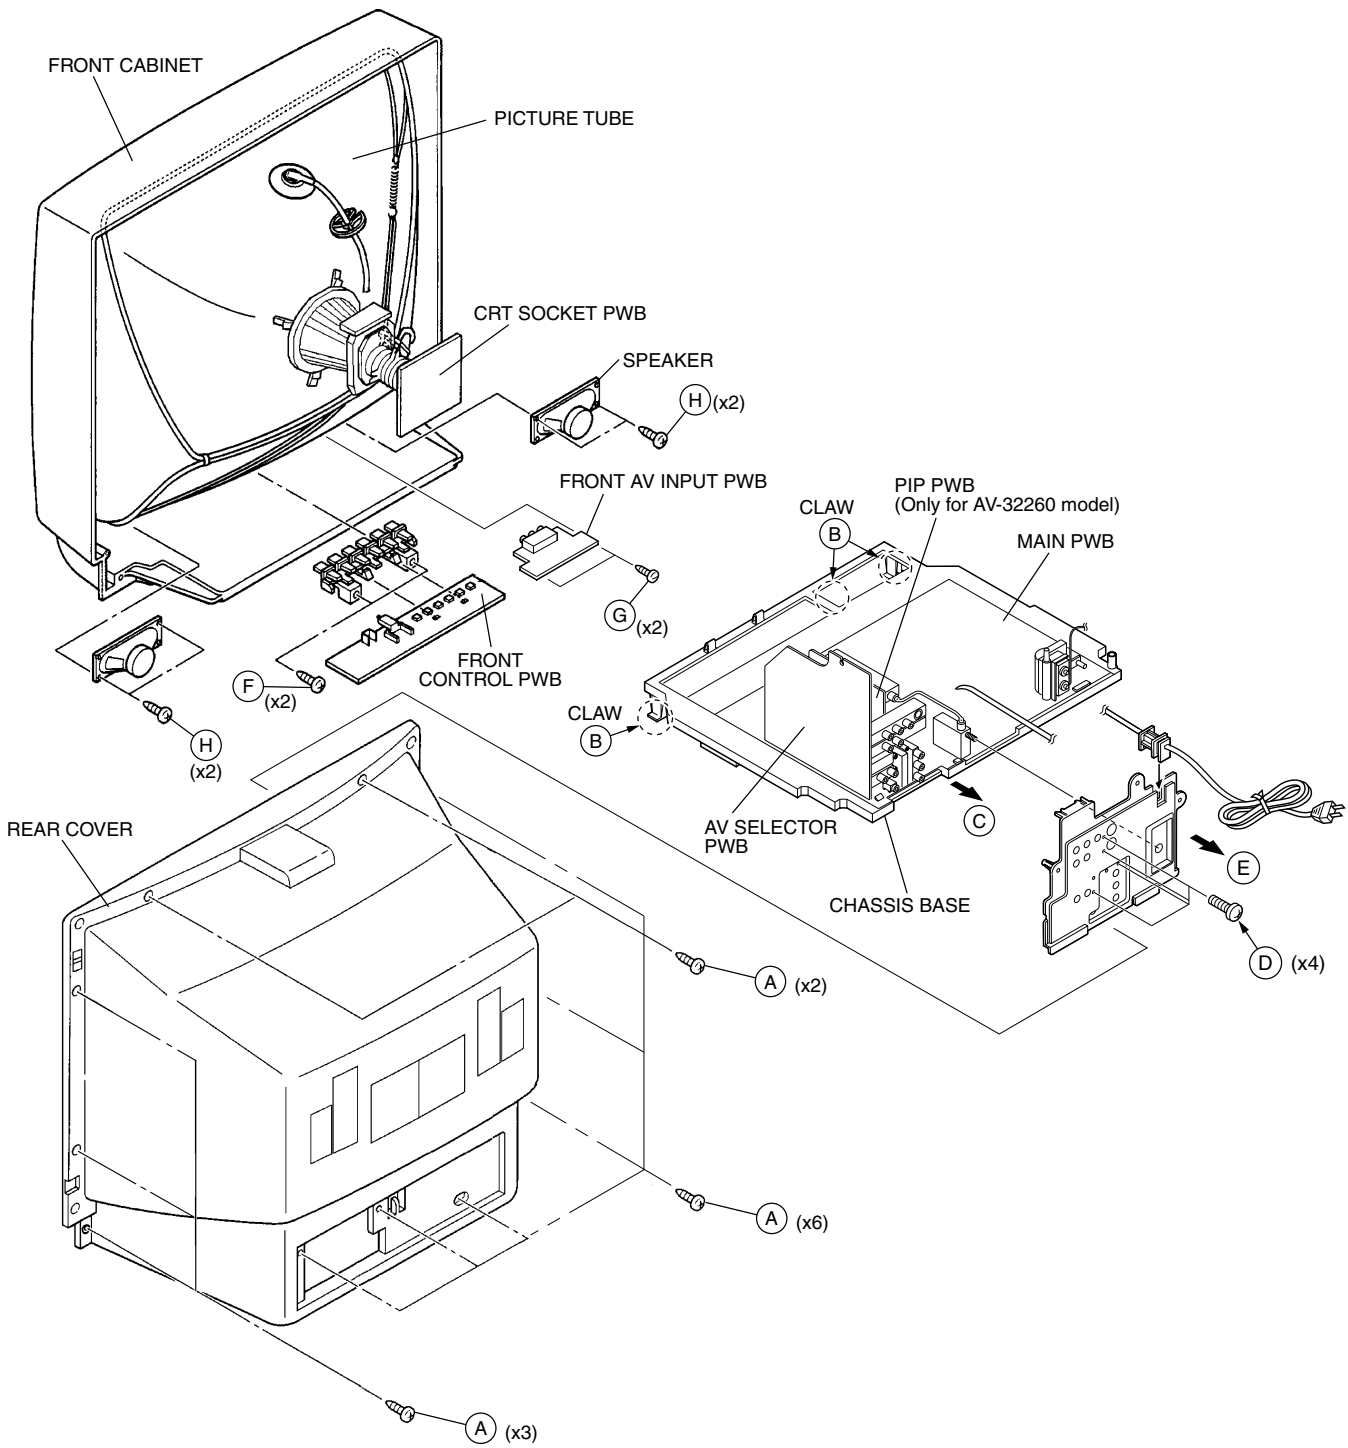

Fig.1
2. Remove the 11 screws marked (A) as shown in Fig.1.
1. Slightly raise the both sides of the chassis by hand and remove the 3 claws marked (B) under the chassis from the front cabinet as shown in Fig.1.
2. Withdraw the chassis backward along the rail in the arrow direction marked (C) as shown in Fig.1.
1. Remove the 4 screws marked (D) as shown in Fig.1.
2. When you pull out the TERMINAL BOARD in the direction of arrow marked (E) as shown in Fig.1, it can be removed.
1. Remove the 2 screws marked (F) and the 2 screws marked (G) as shown in Fig.1.
1. Remove the 2 screws marked (H) as shown in Fig.1.
<p>(7) SERVICE MENU setting Verify what to set in the SERVICE MENU, and set whatever is necessary.(Fig.1) Refer to the SERVICE ADJUSTMENT for setting.</p>